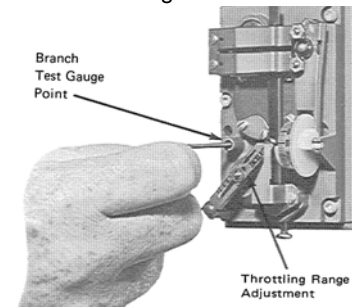

Figure-4
6. If the throttling range in Step 5 is not that desired, move the throttling range slider (Figure-4) in the appropriate direction and repeat Steps 2 through 5 until the desired throttling range is obtained.
2. Using a 5/64-inch Allen wrench, unscrew (counterclockwise rotation) the test point screw one full turn (Figure-4).